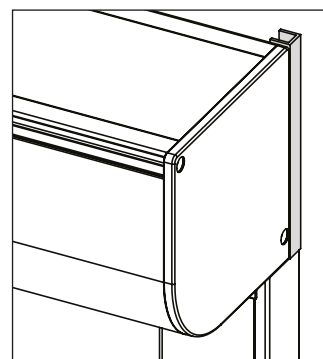

Fig. 32: U-profile height - vertical
- Brings the rear face of the box 10 mm forward (the same as with clips guide type 725 and 755). See also Figure 32.
B. U-profile height - vertical (fig. 32)